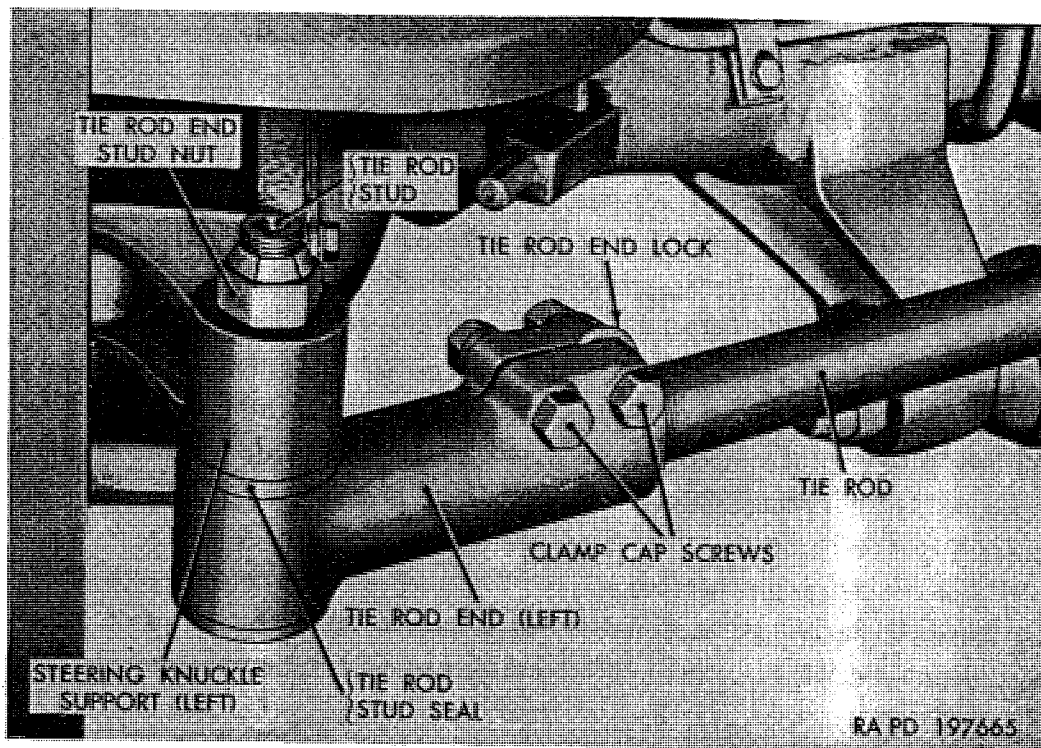

Figure 227. Tie rod installed (left side shown).
- (1) Place vehicle on a level surface and apply parking brake. Place a jack under front axle and raise enough to take weight of vehicle off front wheels.
- (2) Loosen two tie rod end clamp screw nuts at each end of tie rod; then remove inner clamp screws and nuts; also lock (fig. 227) at tie rod left end. Remove tie rod end stud nut at each end of tie rod. Tap steering knuckle support arm a sharp blow with hammer as downward pressure is applied to tie rod end with pinch bar. Move each tie rod end down, and at same time twist forward until free from steering
- (1) Thread tie rod ends onto tie rod an equal distance. Each tie rod end will engage tie rod a distance of 3 inches when in approximately correct location.
- (2) Carefully measure distance between centerline of tie rod end studs; then thread tie rod ends on or off until dimension is $62\frac{17}{32}$ inches. This dimension will approximate correct toe-in after tie rod is installed.
- (3) Install two $\frac{1}{2}$ -20 x $2\frac{1}{2}$ cap screws and $\frac{1}{2}$ -20 nuts used to clamp tie rod ends to tie rod. Also install tie rod lock at tie rod end (left) (fig. 227). Do not final tighten cap screw nuts until toe-in check is made.
- (4) Place tie rod stud seal (fig. 227) over each tie rod stud. Position tie rod assembly with end having coarse threads to right, and end with lock to the left. Insert tie rod end studs into tapered holes in support arms. Install $\frac{7}{8}$ -14 safety nut on each tie rod end stud. Do not final tighten nuts.
- (5) Check and adjust toe-in (par. 220).
- (6) After toe-in adjustment has been made, final tighten tie rod end clamp screw nuts to 48 to 64 pound-feet torque. Final tighten tie rod end stud nuts to 85 to 125 pound-feet torque.
b. Toe-In Adjustment (fig. 227). Loose wheel bearings, worn steering knuckle bushings, loose steering knuckle support trunnion bearings, damaged wheels, and bent steering knuckle, housing, and tie-rod